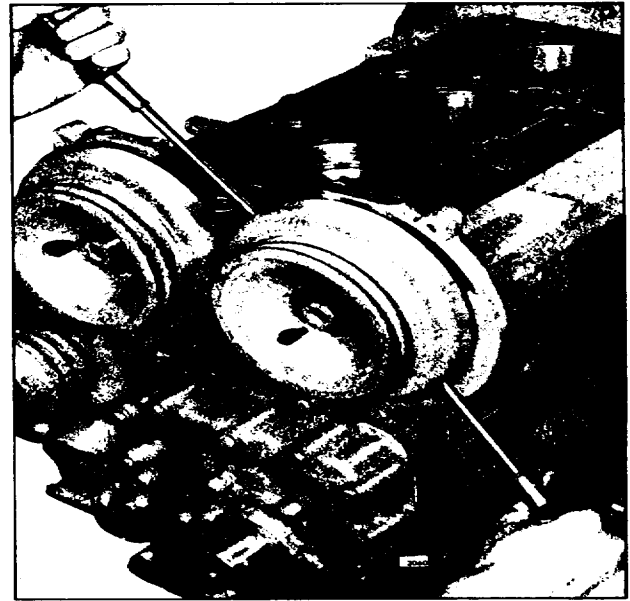

Fig. 1. - Removing Front Balance Weight (Pulley Type)
2. Force the balance weight off the end of each shaft, using two screw drivers or pry bars between the balance weight and the upper front cover as shown in Fig. 1.